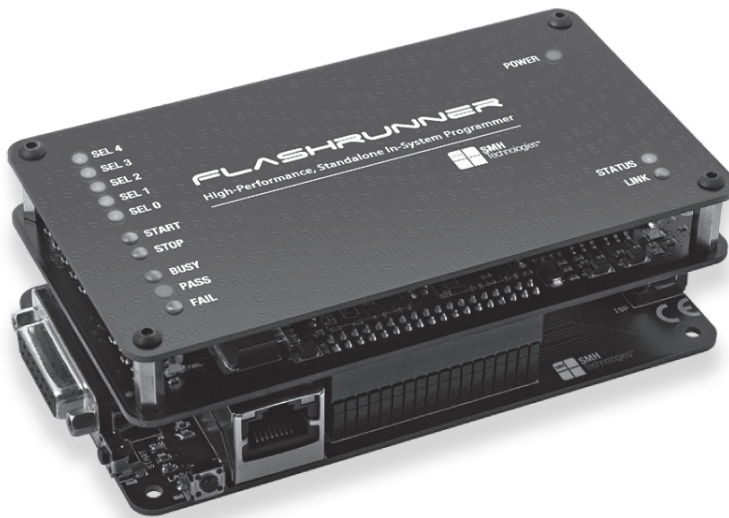

Figure 1.1: FlashRunner FR01LAN
- Figure 1.1: FlashRunner FR01LAN 11